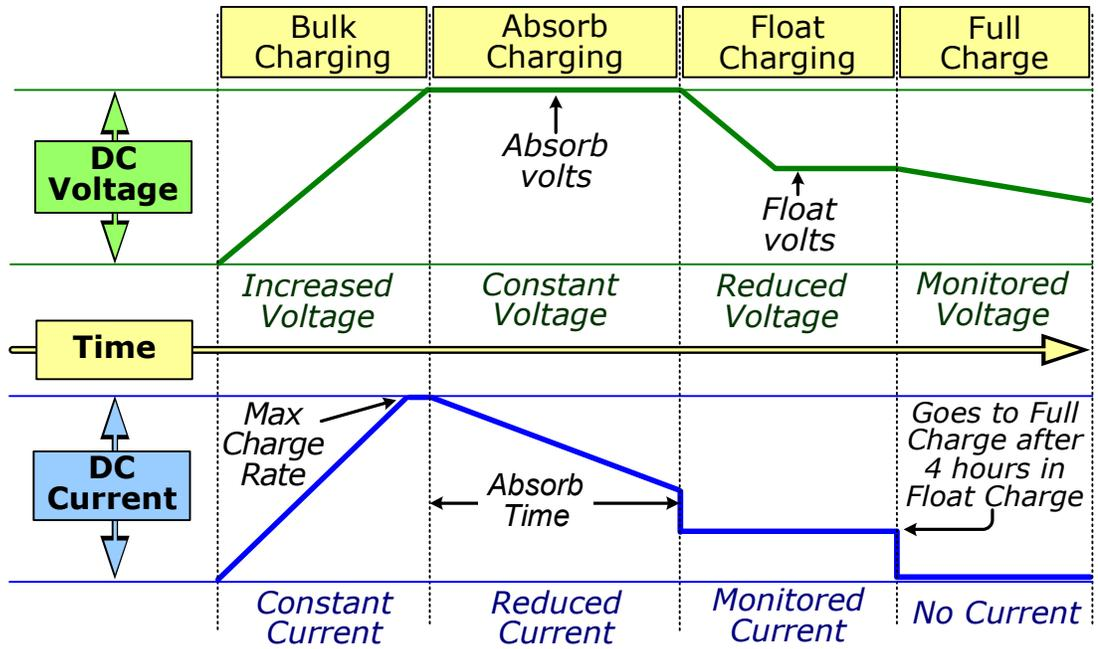

Figure 3-7, Automatic 4-Stage Charging Graph
The multi-stage charger in the MS Series can use up to five different charging stages to help monitor and keep the batteries healthy. The five stages include an automatic 4-stage charging process (Figure 3-7)—Bulk, Absorb, Float, and Full Charge—and a manual Equalization (EQ) charge stage. The automatic 4-stage charge process provides complete recharging and monitoring of the batteries without damage due to overcharging. The EQ stage (requires a remote control display to enable) can be used to stir up stratified electrolyte and to reverse any battery plate sulfation that may have occurred—if recommended by your battery’s manufacturer.
The Charge mode provides up to four separate charging stages: Bulk Charging, Absorb Charging, Float Charging and Full Charge (Figure 3-7).